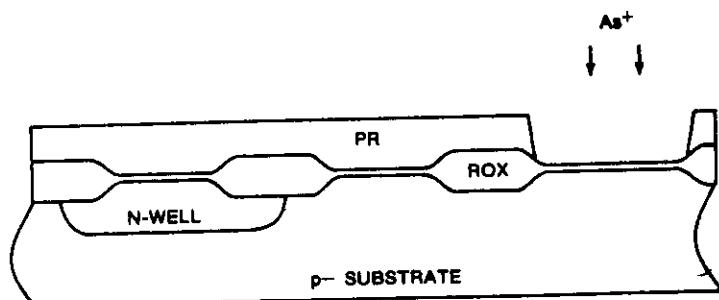

Figure 6. Depletion mode device channel tailoring.
4. *Depletion Mode Device Channel Tailoring and Buried Contact Openings.* As discussed in Chapter 1, the channel of a depletion mode device is formed by a shallow n-type layer underneath the gate. As shown in Figure 6 the depletion mask generates a PR pattern with openings over the areas where the devices are to be formed. A subsequent As⁺ (arsenic) ion implant drives the threshold voltage of these regions to the required below zero level.